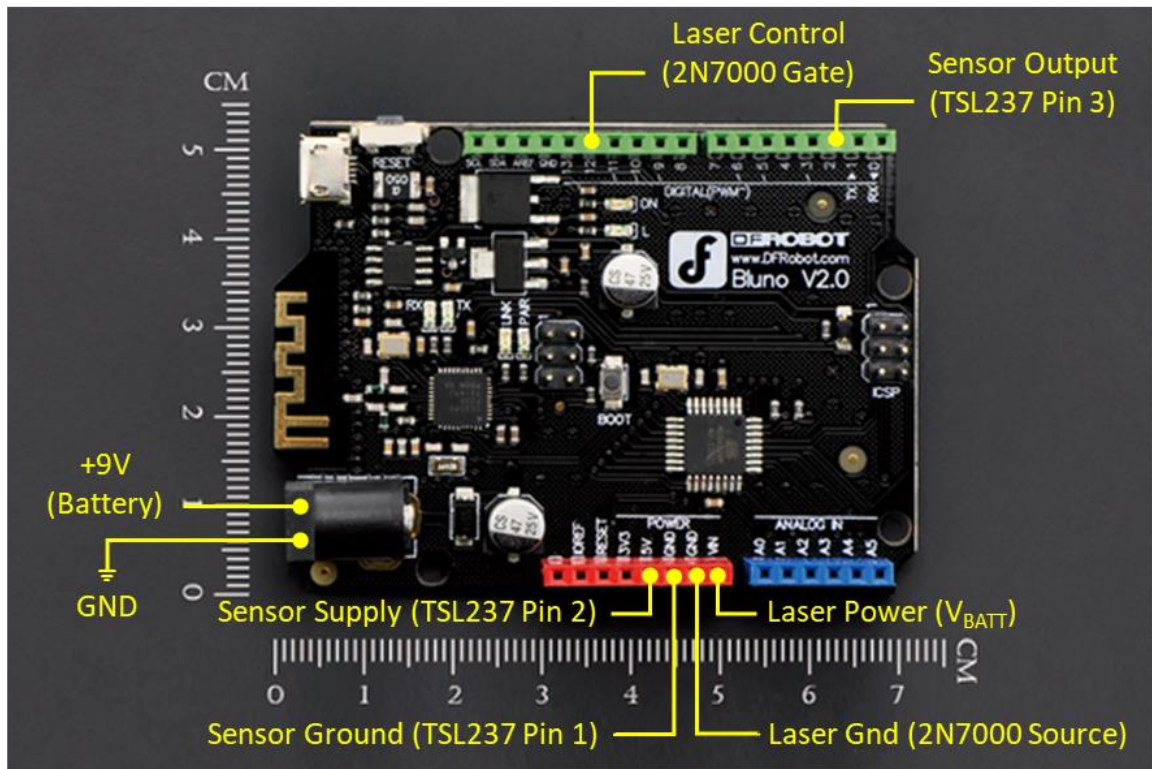

Figure 11. Bluno Microcontroller Connections to Light Source and Sensor
5. Plug the pins of the VCSEL control circuit and the light sensor into the Bluno board at the locations shown in Figure 11. Plug the Bluno board into the LCD shield and secure them together using a zip tie. Plug the power connector from the battery pack into the power jack of the Bluno.